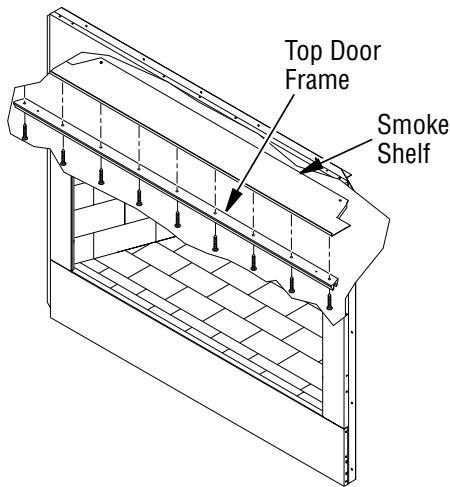

Figure 36 - Installing Top Door Frame
1. Remove screws from smoke shelf (see Figure 36).